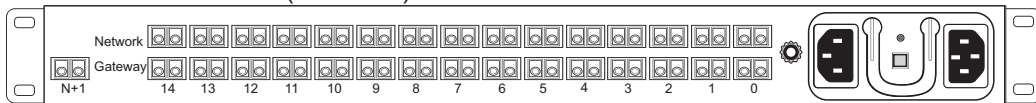

Figure 1.4 7800 N+1 Patch Panel
- If the 7800 series gateway employs N+1 protection, one to two 7800 N+1 patch panels are used to provide protection for the TDM network. See figure 1.4 on page 4.
- One 7800 N+1 patch panel. See figure 1.4 on page 4.